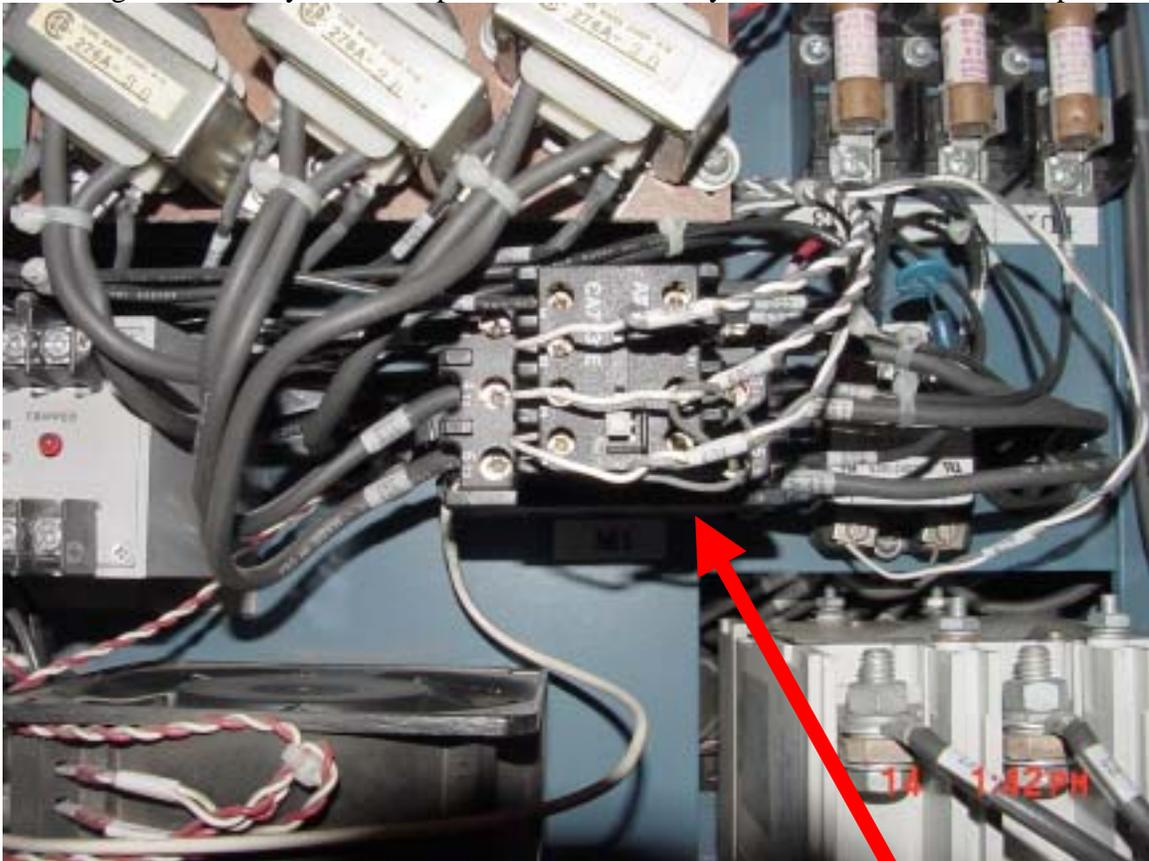

Figure 2
11. In Figure 2 below you see a top view of the auxiliary set of contacts in a 450A p.s.